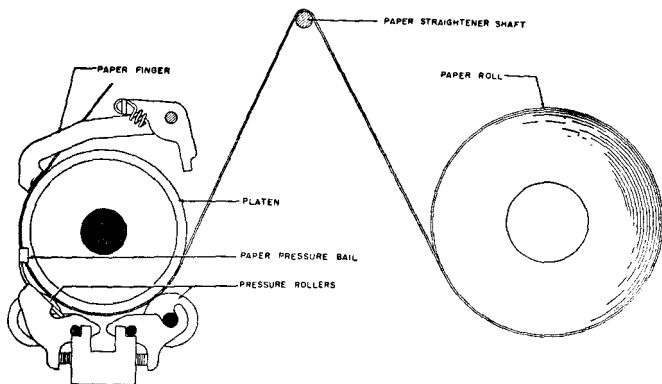

Fig. 1
2.01 To replenish the supply of paper, open the dome of the cabinet, move the paper-release lever on the typing unit toward the rear, and remove the paper spindle. Insert the spindle in a fresh roll of paper and remount it so that the paper unwinds from underneath. Feed the paper over the paper-straightener shaft as shown in Fig. 1 and fold the end of the paper backward to square it off. With the paper-release lever toward the rear, start the paper feeding around the platen and then restore the release lever to its forward position. **Depress** the line-feed wheel and continue to feed the paper upward. **Do** not disturb the ribbon. Make certain that the paper **passes** under the paper fingers, which may be raised temporarily to facilitate the operation. It may be necessary to operate **the** release lever momentarily when finally straightening the **paper**.